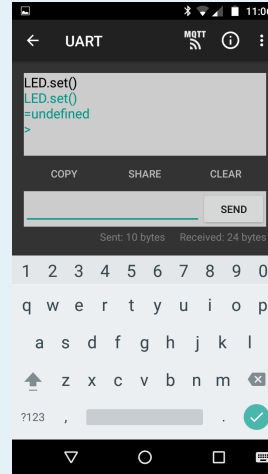

Figure 16-5 Control Puck.js's LEDs by sending JavaScript commands straight to it
4. Type `LED.set()` (note the capitalization) and press Send (Figure 16-5). The red LED should light up!